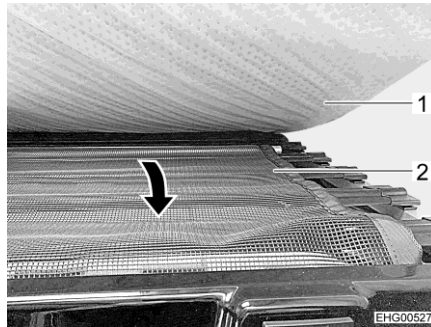

Fig. 52 Safety net
- Pull out the safety net (Fig. 52,2) from under the mattress (Fig. 52,1) and stretch it over the access orifice.